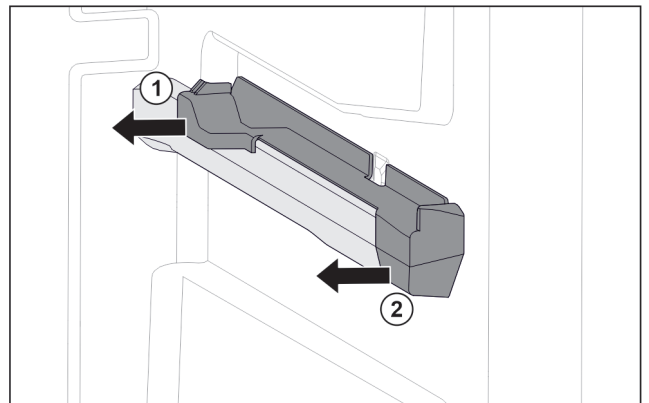

Fig. 55 Attachment on the right moulded rib
- ▶ Pull off attachment at the back sideways. Fig. 55 (1)
- ▶ Pull off attachment at the front sideways. Fig. 55 (2)